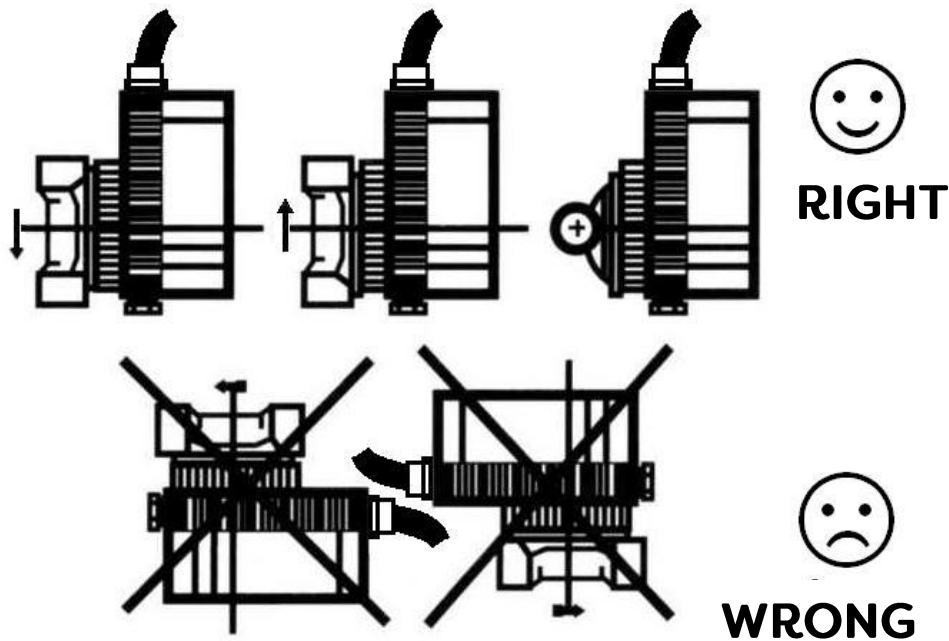

Fig. 3 Method of installation
- The pump should be installed so that the pump shaft is horizontal. See figure 3 below.
NOTE The motor housing should be installed so that the power cable comes out of the motor housing in an upward direction Fig. 3. Such an installation prevents water from entering the box in the event of a water leak. The room in which the pump will be installed must not be damp, remembering that even possible condensed water from the motor housing electrical box can flood the electrical connections leading to failure.